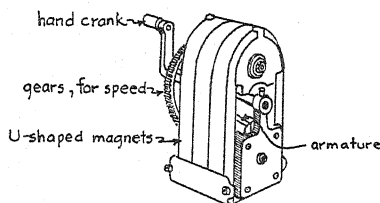

FIG. 56. Magnetos have permanent magnet fields.
67. The Magneto as a Simple Generator. The simplest type of generator in common use is called a magneto, because it uses permanent magnets to supply the necessary magnetic flux. A magneto usually has several U-shaped bar magnets clamped firmly together on some kind of frame as shown in Figure 56. Inside these magnets, revolving between their *N-S* poles, is a small, soft iron armature, wound with many turns of wire. Usually, gears are used to make this armature turn faster than the hand crank on the machine.